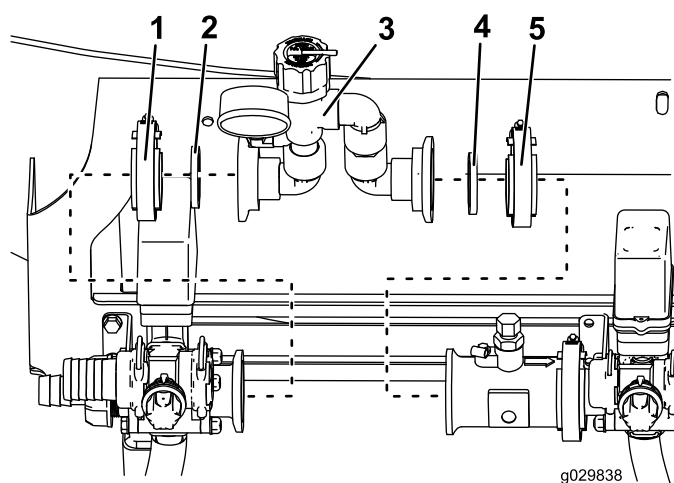

Figure 3
5. Install the existing gasket into the fitting of the pressure-relief assembly that mates with the agitation valve (Figure 3)
6. Install the existing worm clamp over the pressure-relief assembly (Figure 3).
9. Install the new gasket into the open fitting of the pressure-relief assembly (Figure 3).
10. Install the new worm clamp over the open fitting of the pressure-relief assembly (Figure 3).